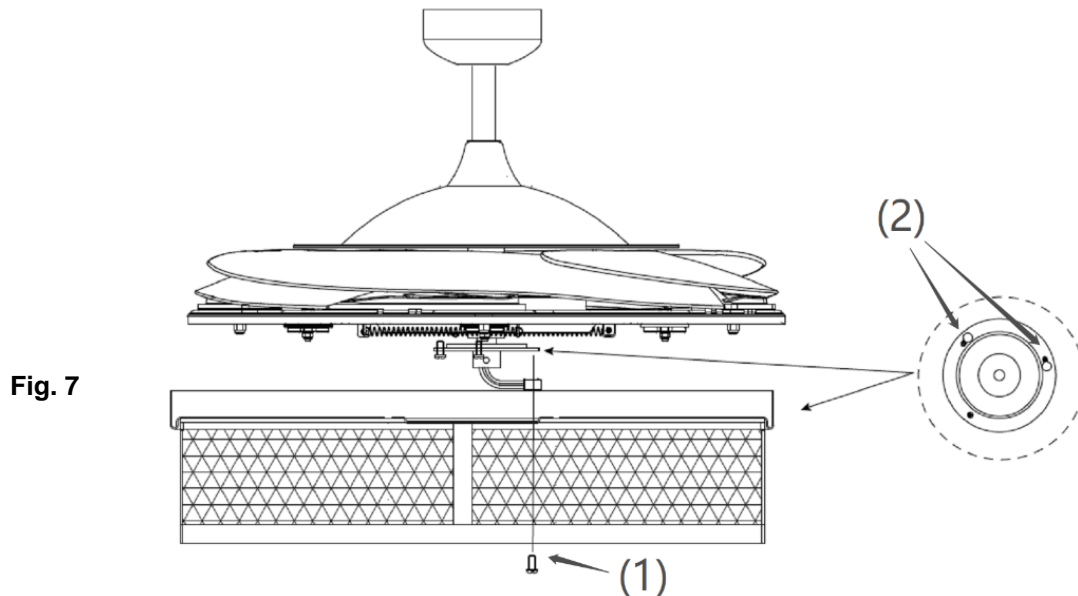

Fig. 7
LIGHT KIT INSTALLATION (Fig.7 & 8)
1. Loosen the screw (1) from the fan bracket. Align the two slot screws with the keyhole slots (2) of the light kit bracket. (Fig. 7)
2. Turn the light kit counterclockwise until the slot screws are firmly at the end of the slots (2).
3. Secure screw (1) to the lamp shade bracket. Tighten all three screws. Do not over-tighten.